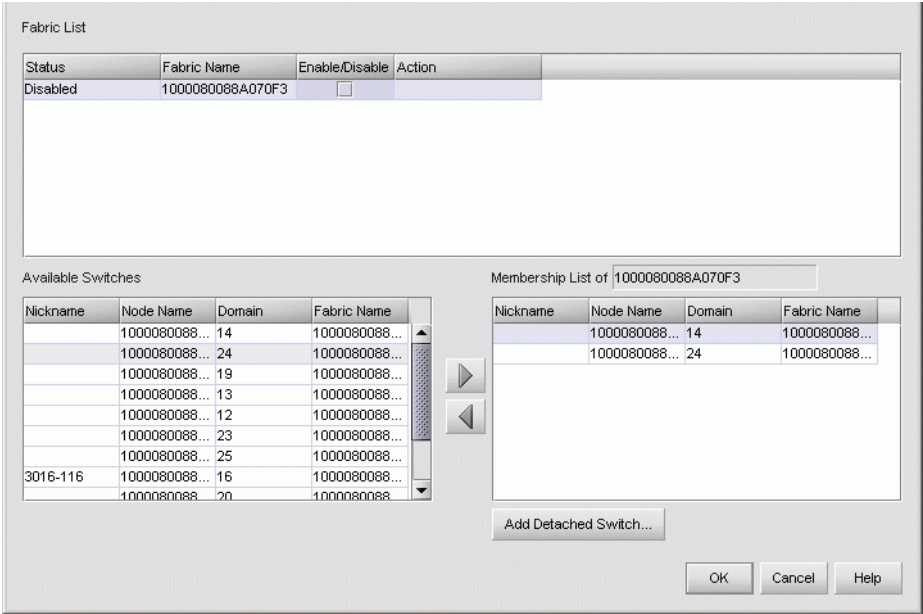

Figure 3-36 Fabric Binding Dialog Box
- a. At the EFCM or SANavigator main window, select *Fabric Binding* from the *Configure* menu. The *Fabric Binding* dialog box displays (Figure 3-36).